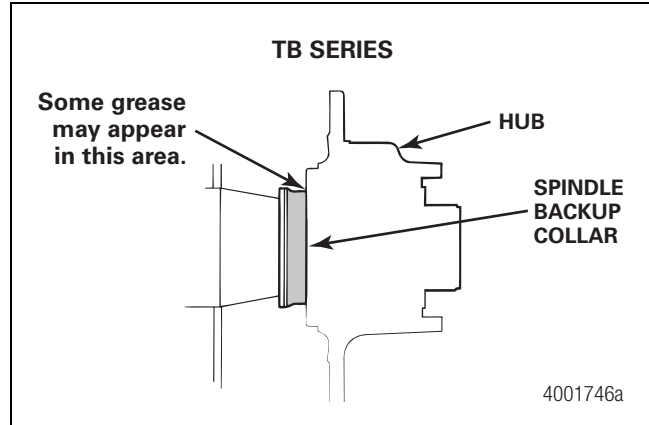

Figure 2.8
2. On the TB Series, when the hub is installed, a small bead of grease may appear at the spindle backup collar-to-hub joint. This is normal and does not indicate a seal leak. Figure 2.8.